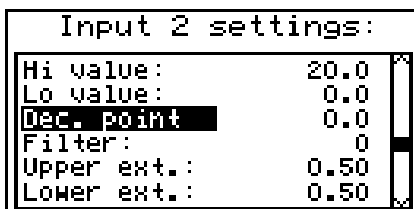

Fig. 7.14. "Inputs settings" menu (part 2)
**“Lower ext.”** Parameter defining the allowable range of input currents (**Fig. 7.14**). If the input voltage lies within the defined range then the appropriate measurement result shall be displayed despite exceeding the nominal measurement value (0-60 mV, 0-75 mV, 0-100 mV, 0-150 mV). If the input voltage exceeds the range defined by **“Upper extension”**, **“Lower extension”**, a **“-Hi-”** or **“-Lo-”** message (depending on the direction of exceeding the range) shall be displayed instead of the measurement result in numeric form. The **“Upper extension”** value is defined in mV with the accuracy of 0.01 mV. The **“Upper extension”** value is defined in relation to a 60 mV voltage in the range of 0-5.99 mV, 75 mV voltage in the range 0-7.49 mV, 100 mV in the range 0-9.99 mV, 150 mV voltage in the range 0-14.99 mV.